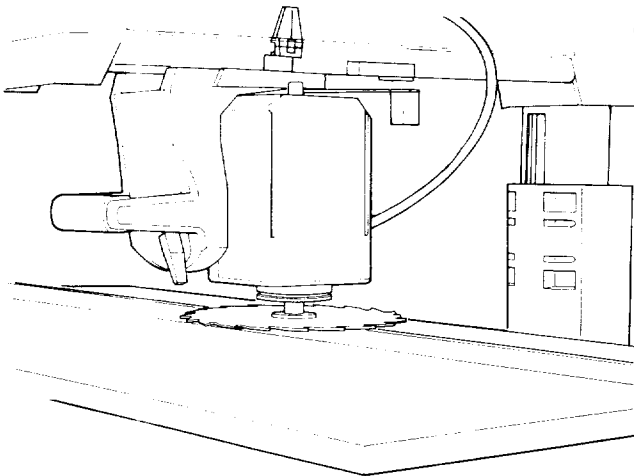

Fig. 73
3. Unlock the *bevel lock*, and turn the *motor* so that the *blade* is parallel to the *table*. (Figure 73)